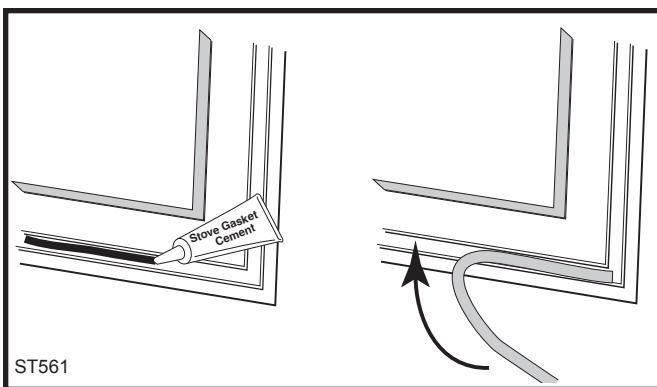

Fig. 39 Lay a bead of gasket cement then press gasket in place.
3. Determine the correct length of the appropriately-sized gasket by laying it out in the channel. Allow an extra 25-51 mm (1-2"), and mark the spot to be cut. (Fig. 39)
6. Starting at one end, press the gasket into the channel. (Fig. 39) Ensure a good joint where the gasket